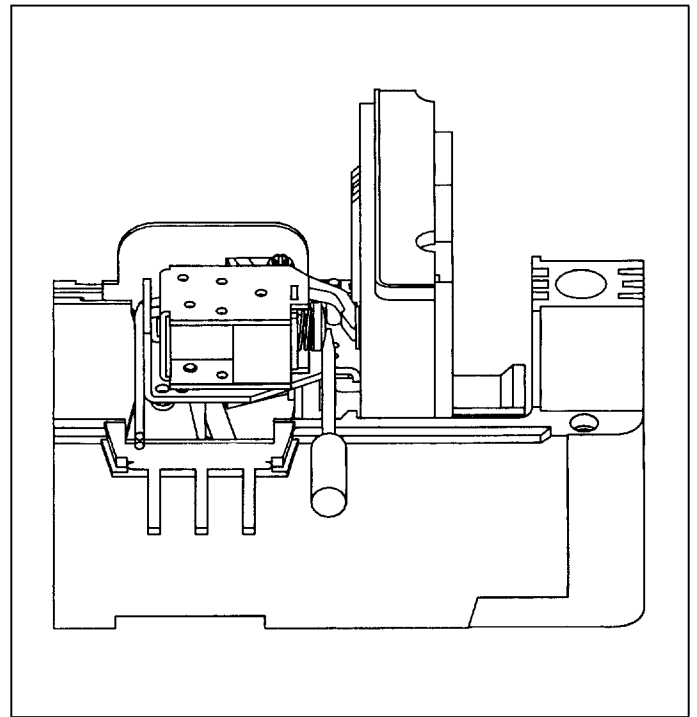

Fig. 2-5. Testing Operation of Solenoid Plunger
- b. Position a small flat-blade screwdriver (Fig. 2-5) under the head of the solenoid plunger. Pry the plunger free from the seated position and check the circuit breaker trips.